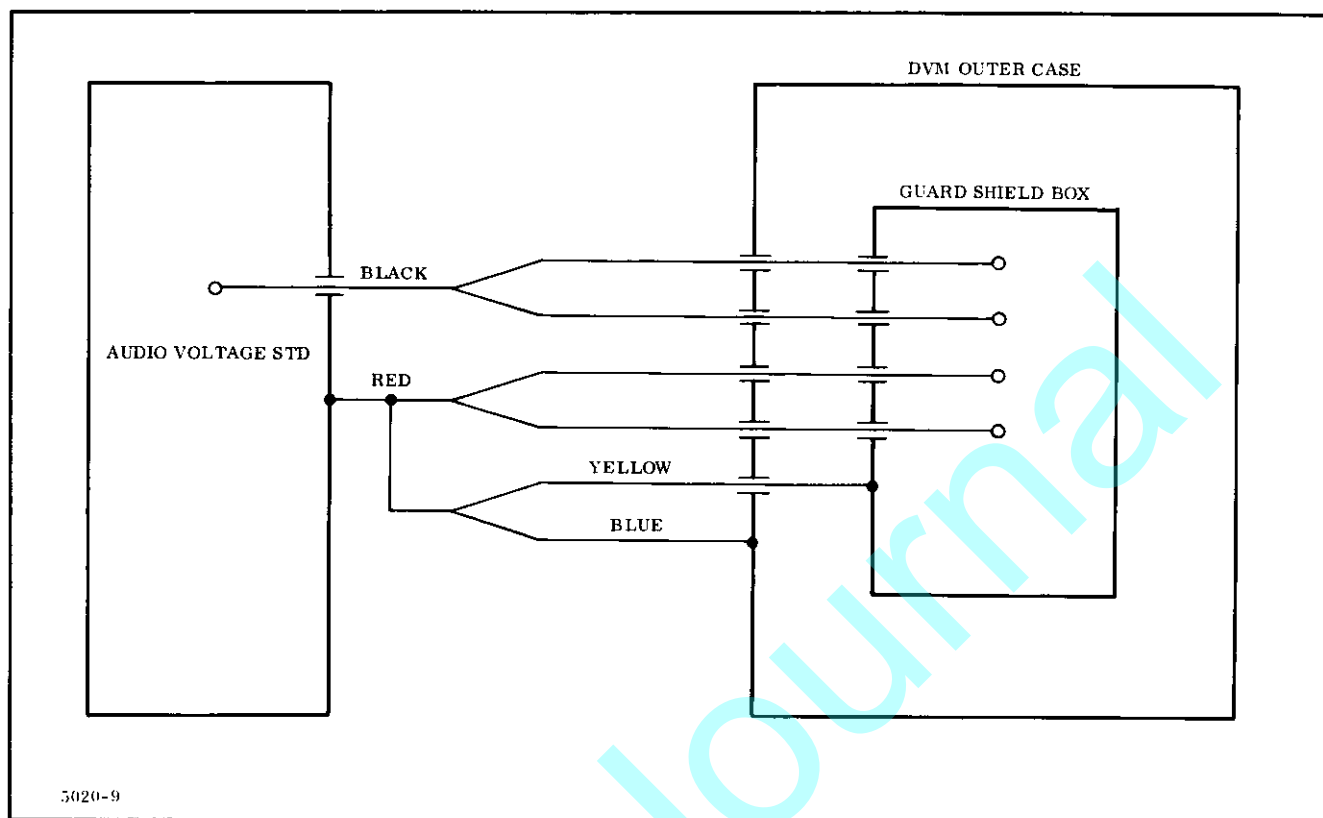

Figure 3-11. AC Calibration Cable Connections
23. Connect input leads to an Audio Voltage Standard, Holt Model 323A or equivalent, as shown in figure 3-11.